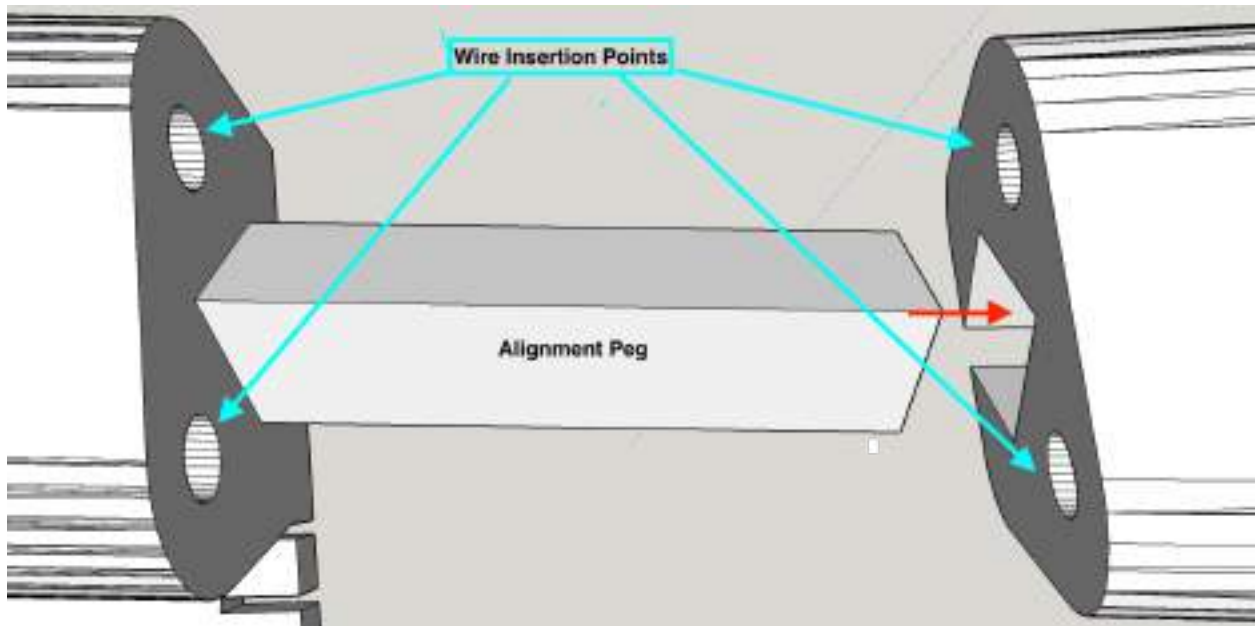

Figure 5: UpperArm to LowerArm Connection
2. UpperArm1 connects with LowerArm1 and UpperArm2 connects with LowerArm2. However, because the joint may tend to be weak point, reinforcement has been designed into the assembly. Figure 5 shows where 2mm wire is designed to be inserted into these parts to make them significantly stronger. Two wires per joint are required.
3. Figure 5 represents the the joint between the UpperArm and LowerArm. Measure the depth of each hole and cut a 2mm wire to span the distance - do not take into account the alignment peg in measurements. Insert the two wires into holes on one plastic brace -there will be a significant length extending—then insert this end into the corresponding holes in the